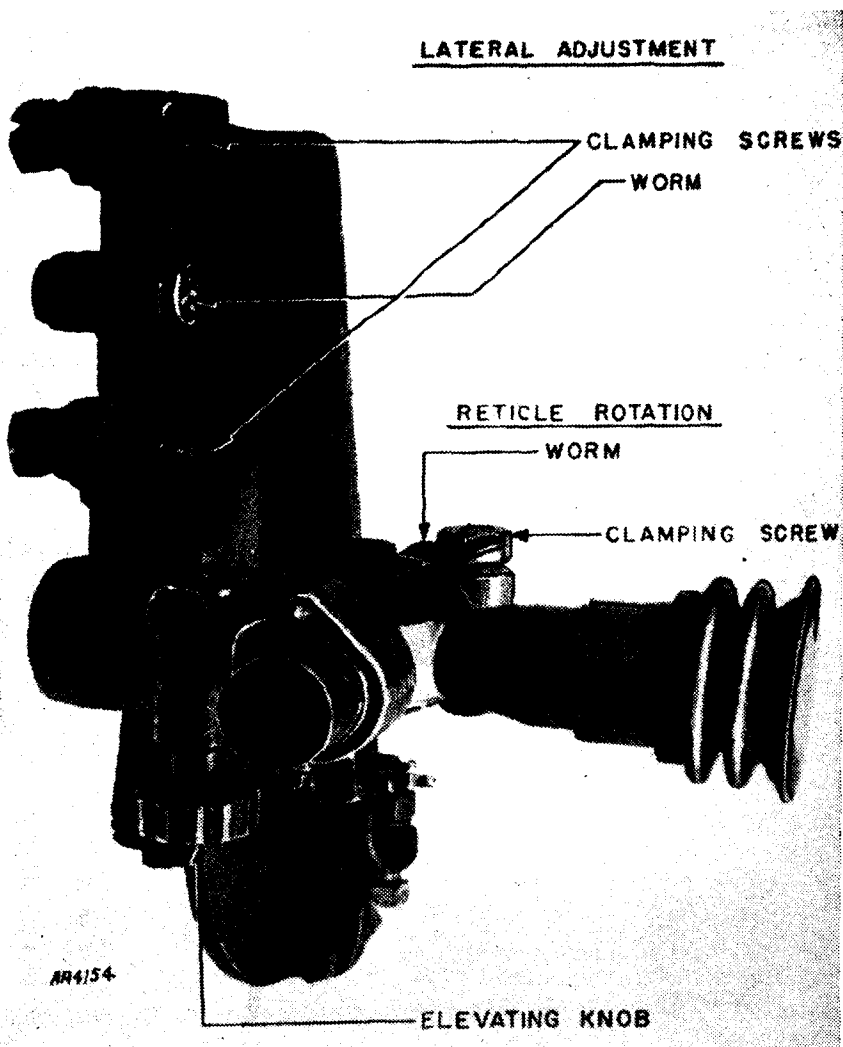

FIGURE 35.—Telescope mount M28 with telescope M24.
(b) In the azimuth telescope, raise or lower the orienting point to the horizontal line by turning the elevating knob (fig. 35) under the elbow angle.
(3) The orienting point must be centered on the horizontal line of each telescope. To do this, loosen the two clamping screws (fig. 35) on the telescope mount, turn the worm between them until the sight is adjusted accurately, and then tighten the two collar screws.